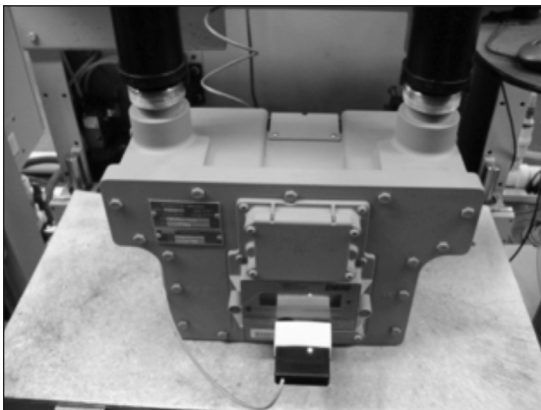

Figure 1.11 Example - IrDA Proving cable installed on meter
2. Install the “optic” IrDA test cable to the meter and the prover as shown in Figure 1.11. The black box should slide into the adapter for the IrDA slot on the bottom of the electronic index for the meter.